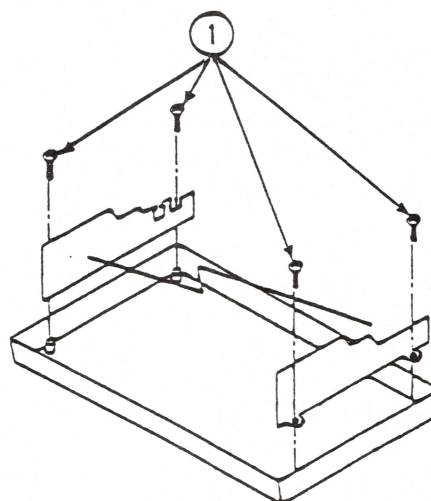

FIGURE 8
15. To free the mechanical assembly, remove the four screws holding it to the bottom cover (see Figure 8, #1).
2. Replace the four screws that secure the mechanical assembly (see Figure 8, #1).